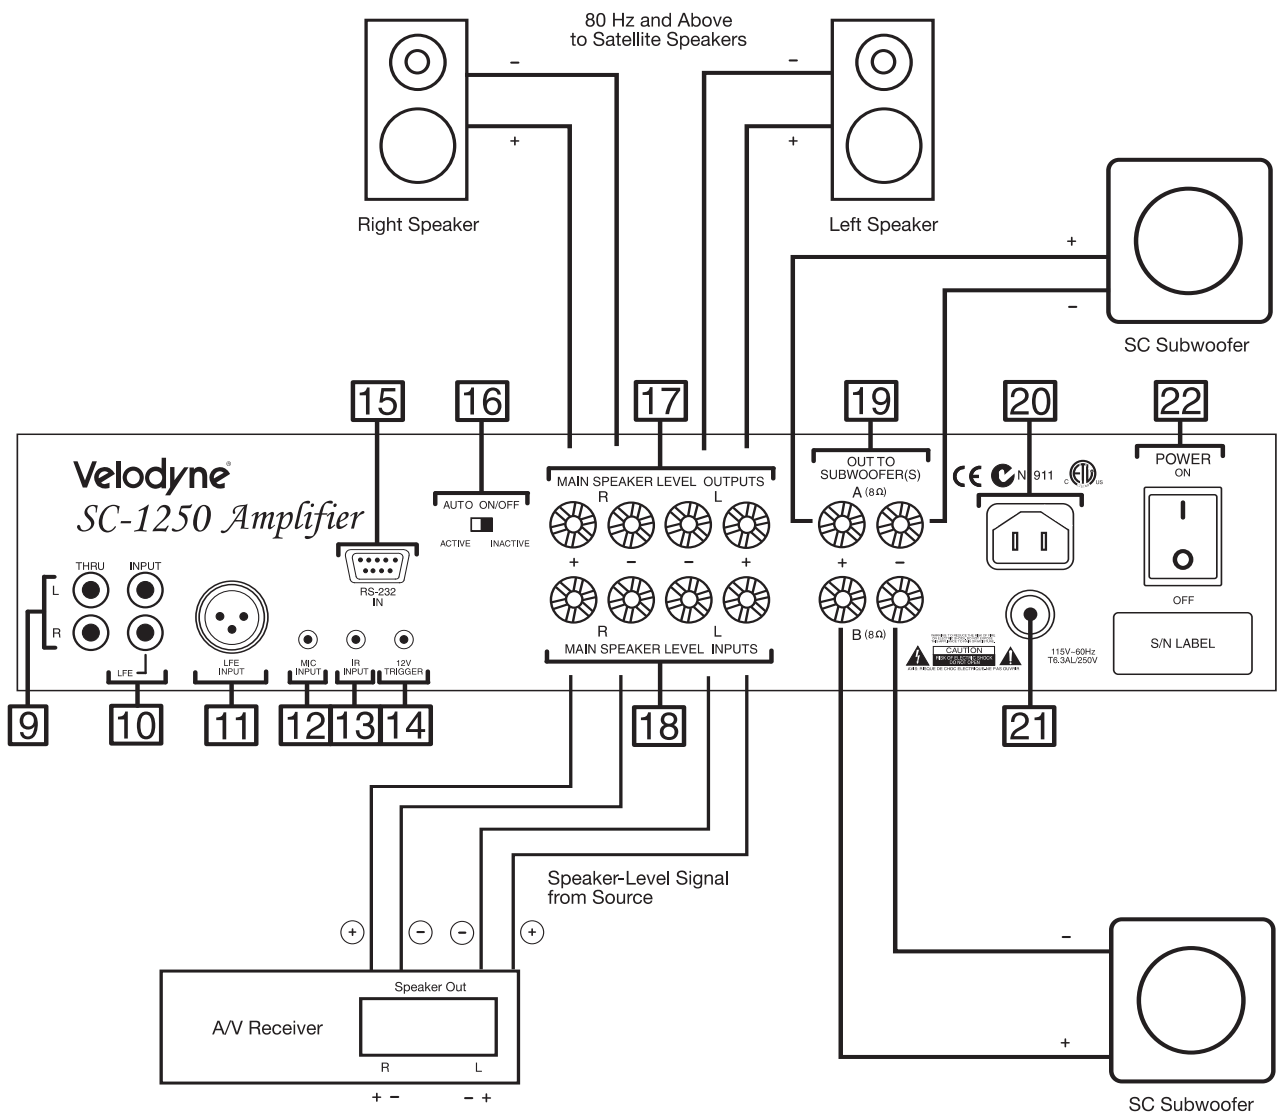

Figure 5: Speaker-Level Connection.
### (17) Speaker Level Output Terminals *(See Figure 5)*
### **(18) Speaker Level Input Terminals** *(See Figure 5)*